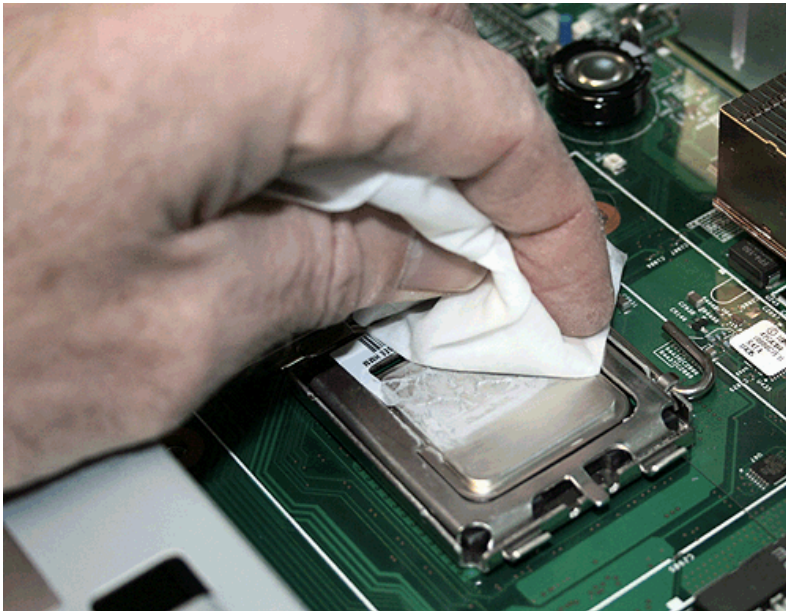

Figure 276. Removing thermal grease from the SAN Volume Controller 2145-8G4 microprocessor
14. Clean the thermal grease from the top of each microprocessor with an alcohol wipe, as shown in Figure 276. Cleaning the microprocessor before it is removed reduces the amount of handling it is subjected to.